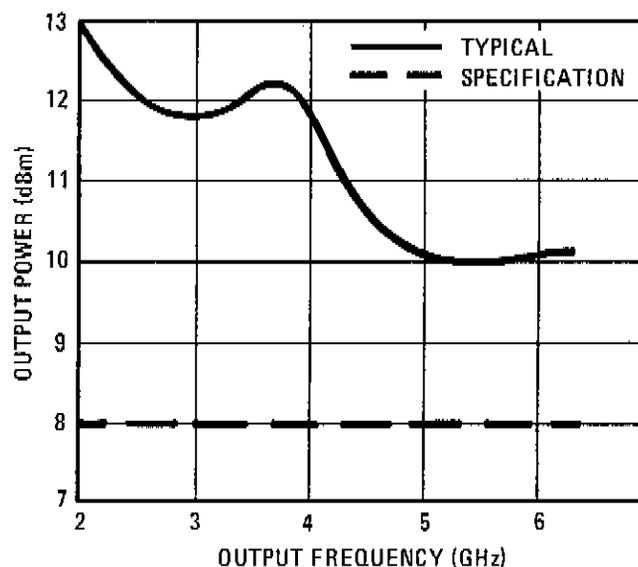

Figure 4-1. Typical Output Power from 8671A
3. Tune from 2 to 6100 MHz in 100 MHz steps. The power should remain above +8 dBm over the entire frequency range. Figure 4-1 shows a typical output level curve.